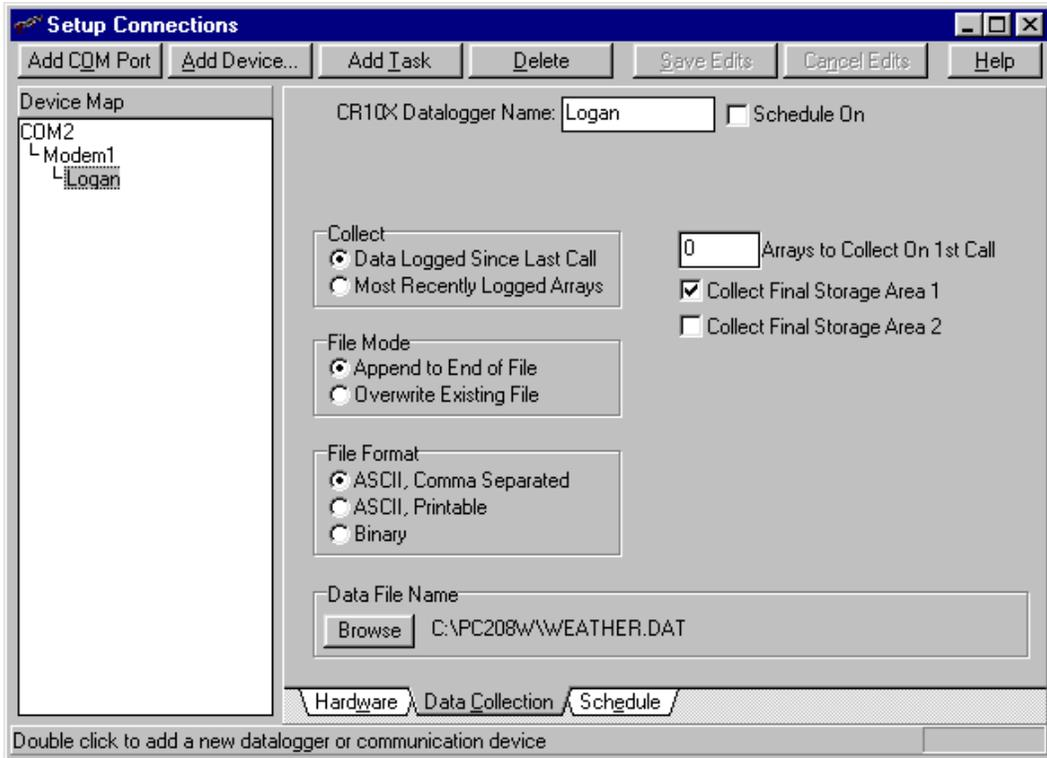

FIGURE G.3-4. Example Data Collection Settings
- On the DataCollection screen, “Data File Name” must be verified. (Weather.DAT for this example, Figure G.3-4). This does not have to be the same name as the datalogger.